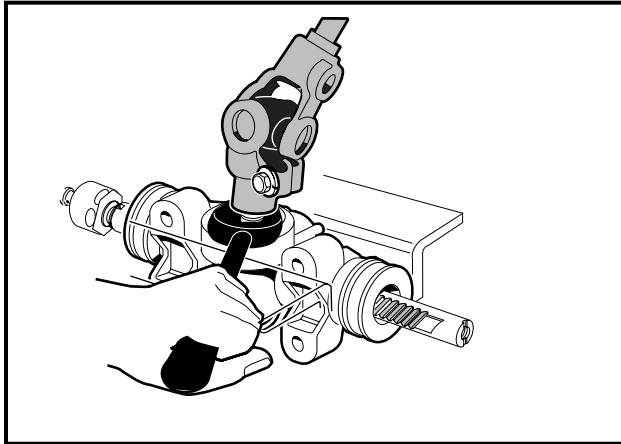
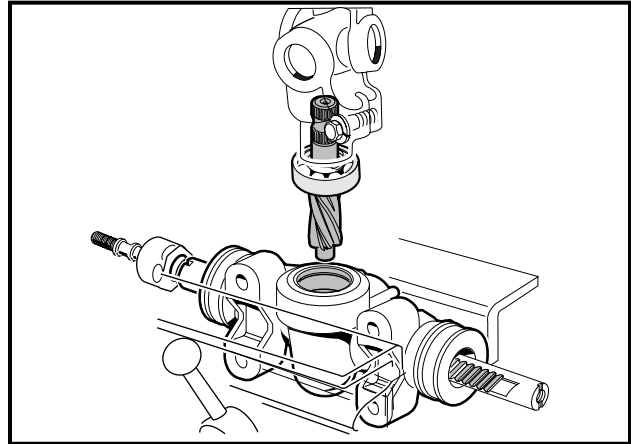

Figure 7-16 Remove Pinion
Figure 7-17 Remove Pinion Gear Assembly
9. Install the universal joint onto the pinion and place a fork or a large open-end wrench under the universal joint (**Figure 7-16, Page 7-9**). Gently pry the pinion from the housing (**Figure 7-17, Page 7-9**).